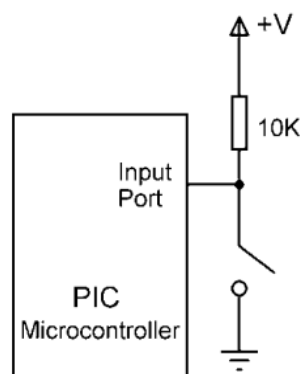

Figure 8 Pulled-up input pin
- `[if (RA4 == 0)]` because the button is initially pulled-high by a 10K resistor, waiting to be shorted to GND if clicked. Thus, RA4 is always equals 1, but goes down to 0 if it is clicked. The schematic is shown in figure 8.